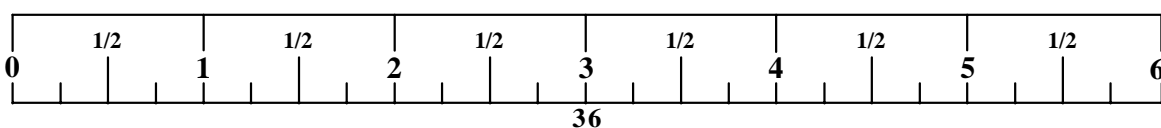

FIGURE 39
- Run the **PRESS CABLE (100)** through the hole in the **D-RING (7)** as shown in **FIGURE 37** and attach one **KEYHOLE CLEVIS (66)** to the end of the **PRESS CABLE (100)**. See **FIGURE 39**.